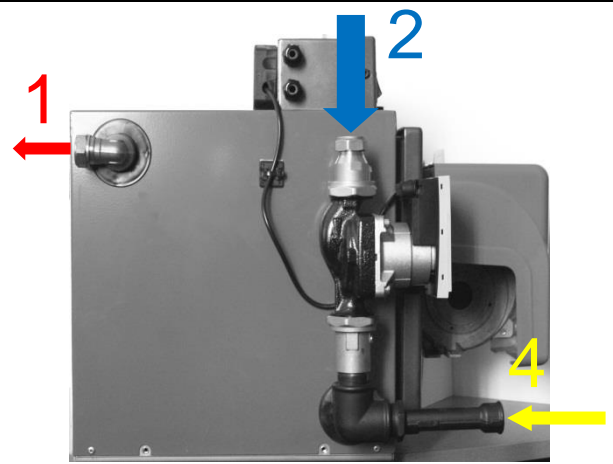

Fig 1
HR central heating (fig 1)
3. Assemble the separately supplied filler tap and drain combination at point 4 (see fig 1).